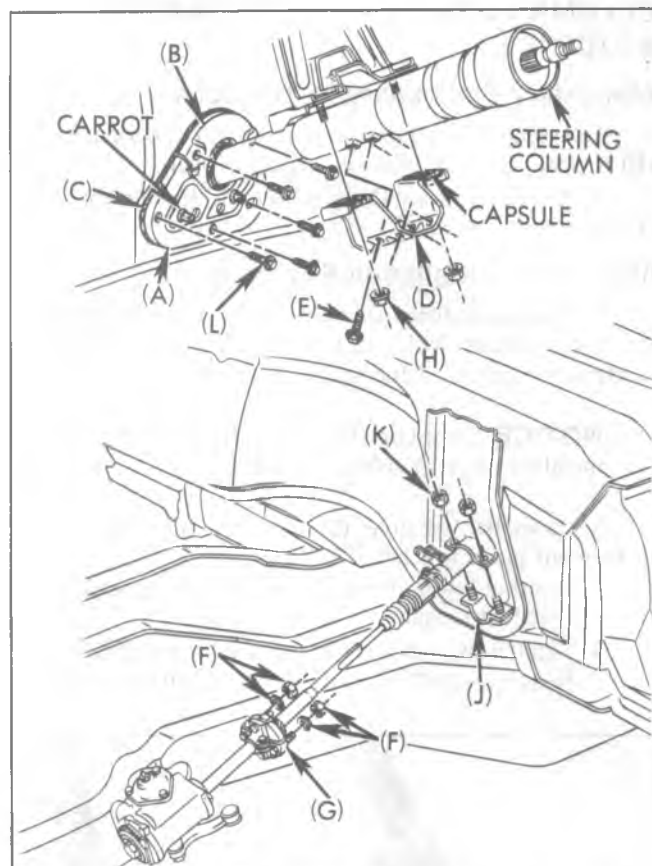

Fig. 3B4-58--Steering Column Installation-CK
12. Assemble the bearing housing over the steering shaft and engage the rack over the end of the actuator rod (Fig. 3B4-56).